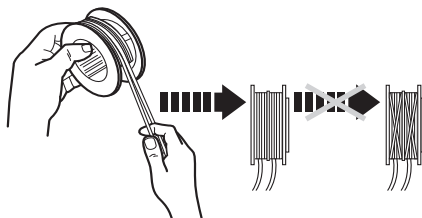

Fig. 34d
10. Wind the two parts of the trimming line in clockwise direction firmly around the spool each part in the guide on the spool. (See Fig. 34d)